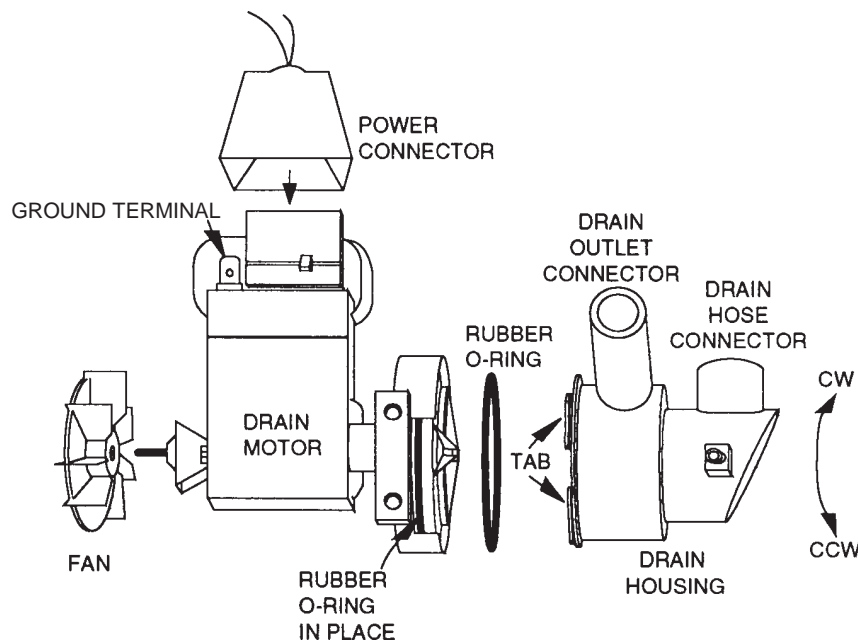

Fig. 27
Refer to Figure 27 for these procedures.
10. Position the drain housing as shown in Figure 27 and insert the tabs in the motor housing slots. Turn the drain housing counter clockwise as far as possible until the assembly locks together.